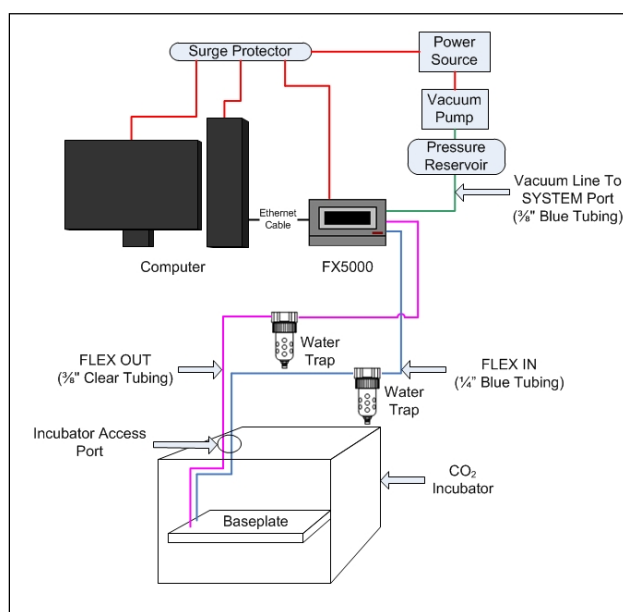
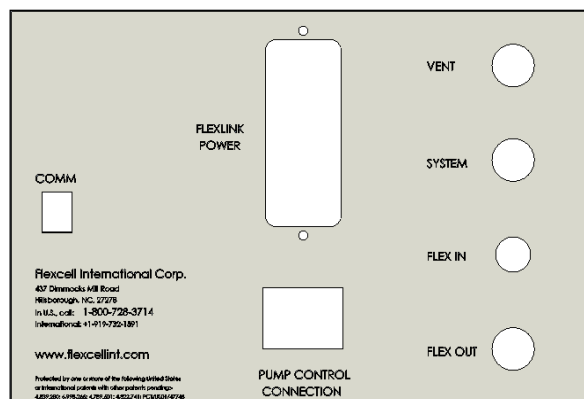
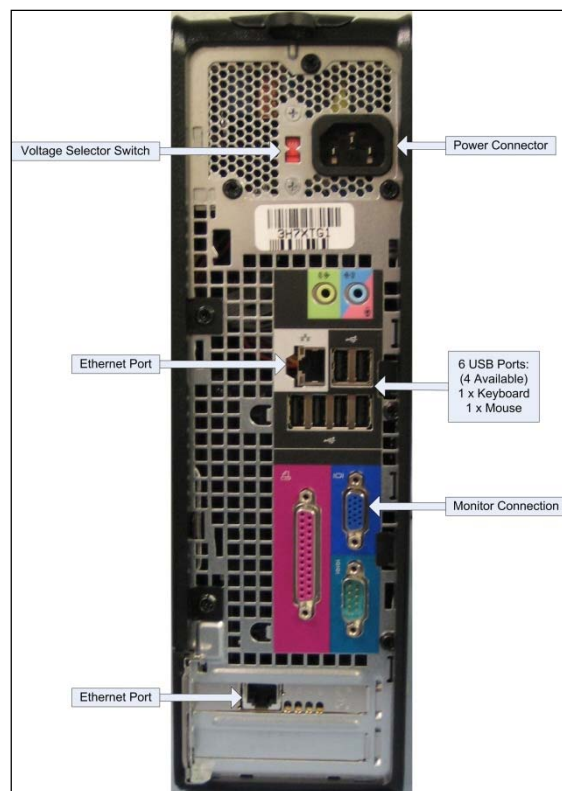

Figure 1. Flexcell® FX-5000™ Tension System
Figure 2. FX5K™ Tension FlexLink® rear view
Figure 3. Dell OptiPlex rear view
4. Connect the FlexLink® to the Ethernet port on the back of the computer using the Ethernet cable supplied (see Figs. 2 and 3, p.2).
8. Place the Water Traps (see Fig. 1, p.2) **inline** with the **FLEX IN** and **FLEX OUT** tubing:
Choose a location for the FX-5000™ Tension system (Fig. 1) that is adjacent and as close as possible to the CO₂ incubator and vacuum source. A shorter distance in vacuum lines decreases the air flow resistance for elongation and release of the flexible bottomed culture plates, allowing for a greater range of flexing at higher frequencies. The length of the vacuum line should be a minimum of 4' (1.2 m). All tubing and the Ethernet communications cable connect to the rear of the **FX5K™ Tension FlexLink®** (Fig. 2). All cables (mouse, monitor, keyboard, and Ethernet communications cables) will connect to the rear of the **computer** (Fig. 3). The length of the clear and blue tubing from the FlexLink® to the baseplate should be 10' (3 m) long to assure proper system performance. This
1. Connect the $\frac{3}{8}$ " (9.5 mm) O.D. blue tubing from the vacuum source to the **SYSTEM** port on the back of the FlexLink® (Fig. 1 & 2).
2. Attach the free end of the clear $\frac{3}{8}$ " (9.5 mm) tubing to the **FLEX OUT** port on the back of the FlexLink® (Fig. 2).
3. Attach the free end of the blue $\frac{1}{4}$ " (6.4 mm) tubing to the **FLEX IN** port on the back of the FlexLink® (Fig. 2). The **VENT** port should be left open (Fig. 2).
Connect the power cables (115 VAC or 230 VAC) to the rear power inlet (**FlexLink Power**) of the FlexLink® (Fig. 2). If the available power supply is 115 VAC or 230 VAC, be sure the voltage selection switch ON the computer (Fig. 3) is set to 115 V or 230 V, respectively. When the instruments are completely set up, the power cords should be connected to a **surge protected** power strip and then to a 115 VAC or 230 VAC, 60 Hz power outlet.
on the rear of the FX5K™ Tension FlexLink® (Fig. 2 and 6).